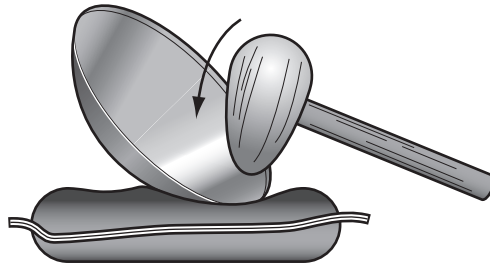

Fig. 7
- 10 Fig. 7 shows a dish made from copper being shaped. Explain why it would be necessary to anneal the copper during shaping.